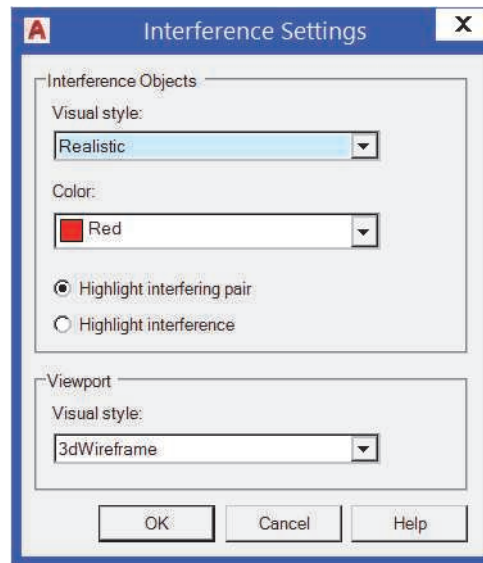

Figure 7–15
- The **Settings** option controls the display of the interference objects, as shown in Figure 7–15. By default, the *Visual style* of the interference objects is set to **Realistic** with the *Color* set to **Red**, while the *Viewport* is set to **Wireframe**. These settings enable you to see the interference options in the selected solids.